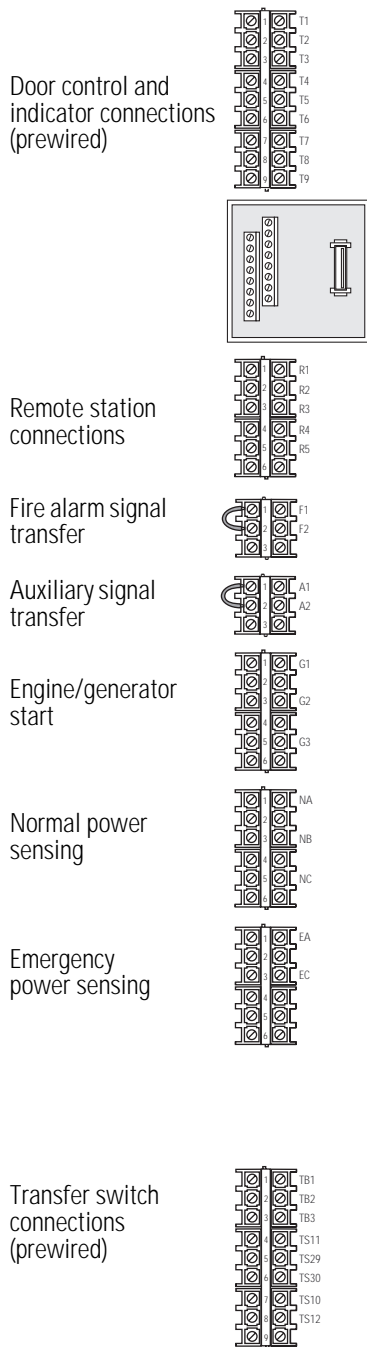

Figure 16: Control and Sensing wire terminal connections
4. Use a digital voltmeter (DVM) to test the feed voltage at the Normal power sensing terminal block (Figure 16 on page 16 for location). Phase A is on terminal 1, phase B on terminal 3 and phase C on terminal 5. Voltage must be within  $\pm 10$  percent of the rated voltage for the ELTS.